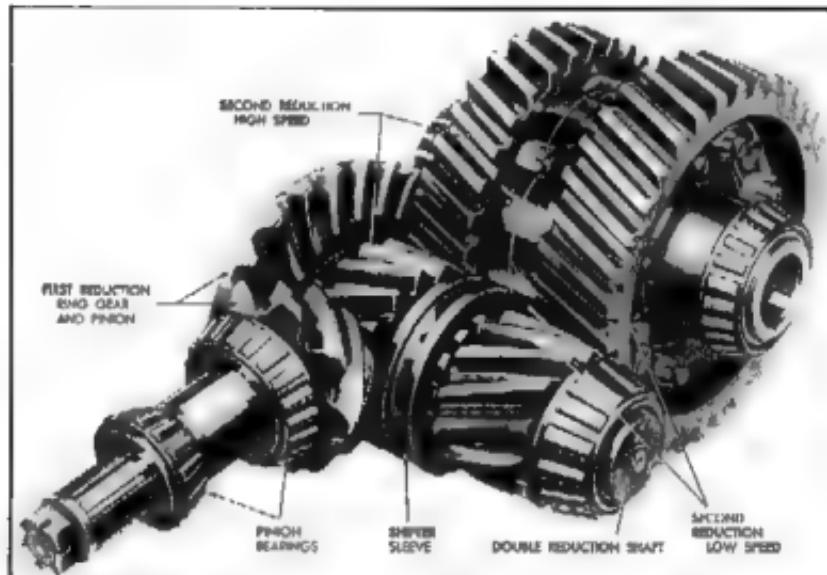

Fig. 45—Two-Speed Axle
**Description (2-Speed Axle).** The two-speed axle is of the double reduction type having a hypoid ring gear and pinion for the first reduction (fig. 45). The ring gear is mounted on a double reduction shaft having a high speed and a low speed floating reduction pinion that meshes with a respective high and a low speed reduction gear that is bolted to the differential case. An internal splined shifter sleeve fits on splines at the center of the double reduction shaft and can be shifted in either direction to engage splines on the reduction pinions to lock